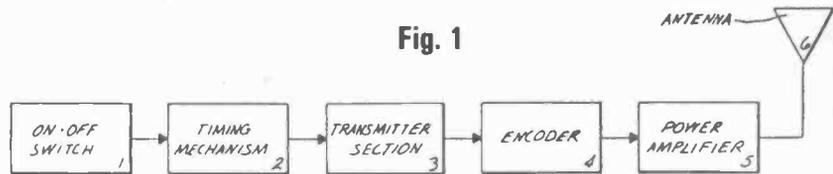
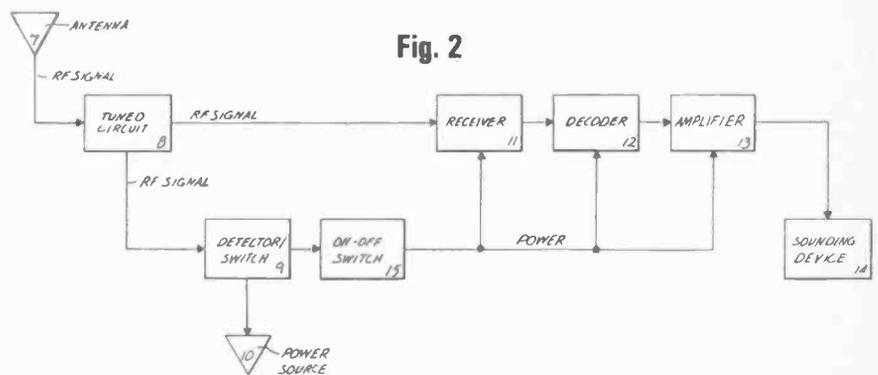

Fig. 1
Fig. 2
European patent item 089667, from Thomas William Nyiri of San Marino, California is a quaint idea with interesting possibilities. The idea is to track down lost keys, purses and wallets by fitting them all with a miniature receiver that produces an audible or visible signal when triggered by a transmitted search signal. Fig. 1 shows the transmitter, which will usually be a handheld battery powered gadget like a TV remote control. Chip 3 produces an r.f. signal on either CB or model-control frequencies. Encoder 4 chops the signal in a pre-arranged code. When the first stage of the receiver shown in Fig. 2 picks up a signal of correct frequency it triggers f.e.t. 9 to switch battery power 10 into the rest of the receiver. Decoder 12 distinguishes between random CB or model transmissions and a wanted search signal. It outputs to amplifier 13 and sound or light generator 14. The idea, of course, is to make the receiver small enough to attach to whatever it is you think you are going to lose. By using different transmission frequencies, or codes, one transmitter can search independently for several lost ob-